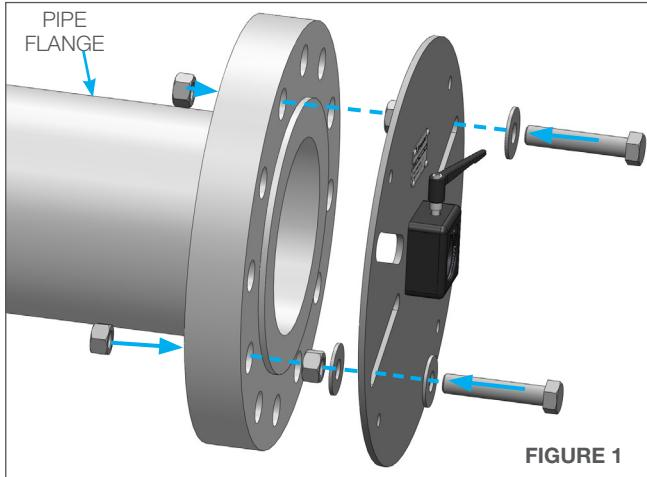

FIGURE 1
1. Attach the Quarter Plate Flange Mount to the pipe flange using the fasteners that were removed from the flange joint. The nuts shown between the pipe flange and the Quarter Plate Flange Mount are to allow for drainage. Other spacer options such as washers are acceptable. (**Figure 1**)
1. Attach the 4"-8" Flange Mount Plate to the pipe flange using the fasteners that were removed from the flange joint. The nuts shown between the flange and the Flange Mount Plate are to allow for drainage. Other spacer options are acceptable. (**Figure 1**)
1. Attach the strap end to the strap capture bar and wrap the strap around the pipe towards the Winch Assembly. (**Figure 1**)
1. Loosen the screws on both collet cap blocks. Slide the BOP 030 Collet Block Assembly onto the guide tube on the ABX-PRO and tighten the two screws until secure. Slide the BOP 081-6 Snout Tube into the BOP 030 Collet Block Assembly. Push the Snout Tube in until it stops, then tighten the two until secure. (**Figure 1**)